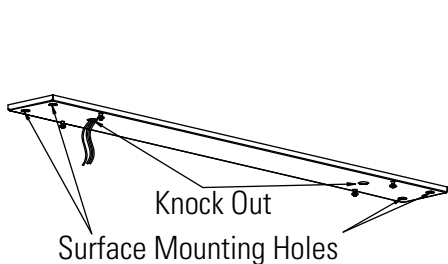

Figure 1
- B. Remove the knock out and fish the wires from J-Box through the hole on the surface-mounting bracket. (Fig. 1)